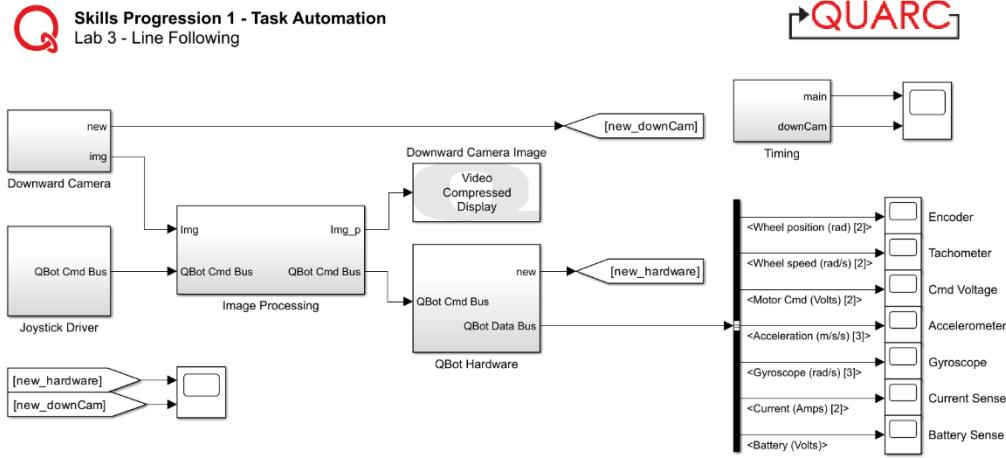

Figure 1. Line Following Simulink Model
4. Open the Simulink Model line_following.slx, as shown in Figure 1. Configure the model so that it can be deployed to the QBot Platform:
10. You should now have properly highlighted your area of interest. Stop the code and delete the purple Display area and all 4 blocks in it. The blocks at the top of this subsystem create the **Downward Camera Image** block shown as part of figure 1. This output will highlight the area of interest as red on the full undistorted original image. Run your code to verify this.